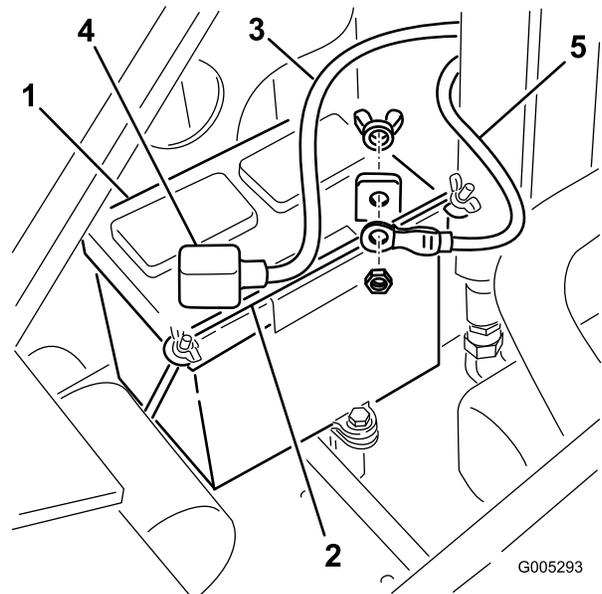

Figure 29
- Remove the wing nuts and bar securing the battery (Figure 29).
9. Install the battery into the chassis (Figure 29).
10. Secure the battery in the chassis (Figure 29).
11. Using the bolt and wing nut supplied with the battery, connect the positive (red) cable to the positive (+) battery post (Figure 29). Slide the rubber cover over the battery post.
12. Using the bolt and wing nut supplied with the battery, connect the negative (black) cable to the negative (-) battery post (Figure 29).